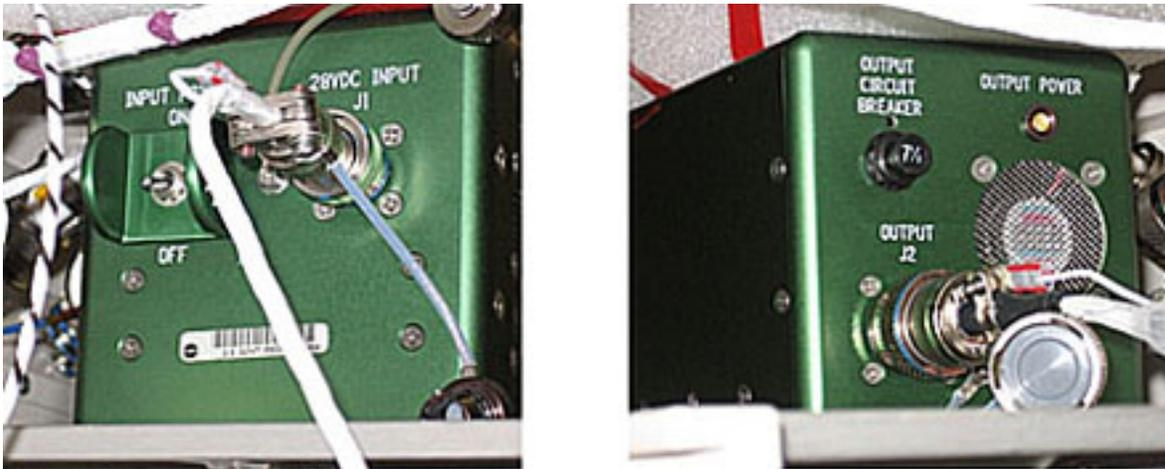

Figure 8. FSL Laptop Power Converter - Details
FSL Laptop Enhanced A31p 16 VDC Power Cable → | ← Power Converter OUTPUT J2 (Figure 8, right frame) and laptop (Figure 7).
FSL Laptop DC Power 28 VDC Cable → | ← Pwr J104 (Figure 4) and Power Converter 28VDC INPUT J1 (Figure 8, left frame).
- POWER CONVERTER sw INPUT POWER (Figure 8, left frame) → ON
- Verify OUTPUT POWER LED (Figure 8, right frame) –